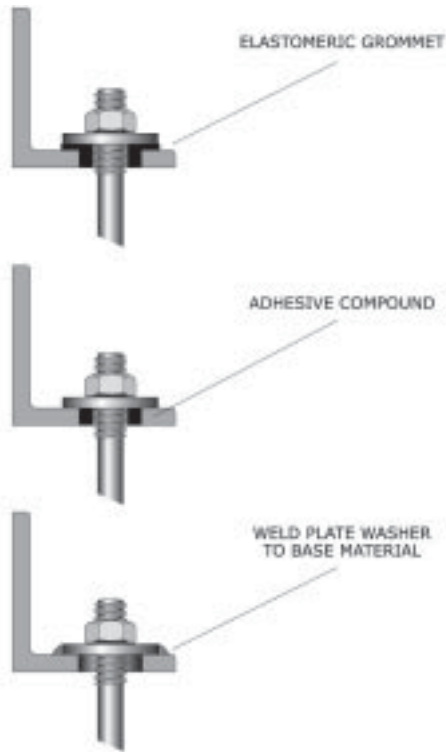

Figure 76: Three options to repair oversized holes.
**DO NOT DRILL OVERSIZED HOLES. New holes cannot be oversized or oval in shape. Repair oversized holes as shown in Figure 76 (page 54), if necessary.**
**!** DO NOT DRILL OVERSIZED HOLES. New holes cannot be oversized or oval in shape. Repair oversized holes as shown in Figure 76 (page 54), if necessary.